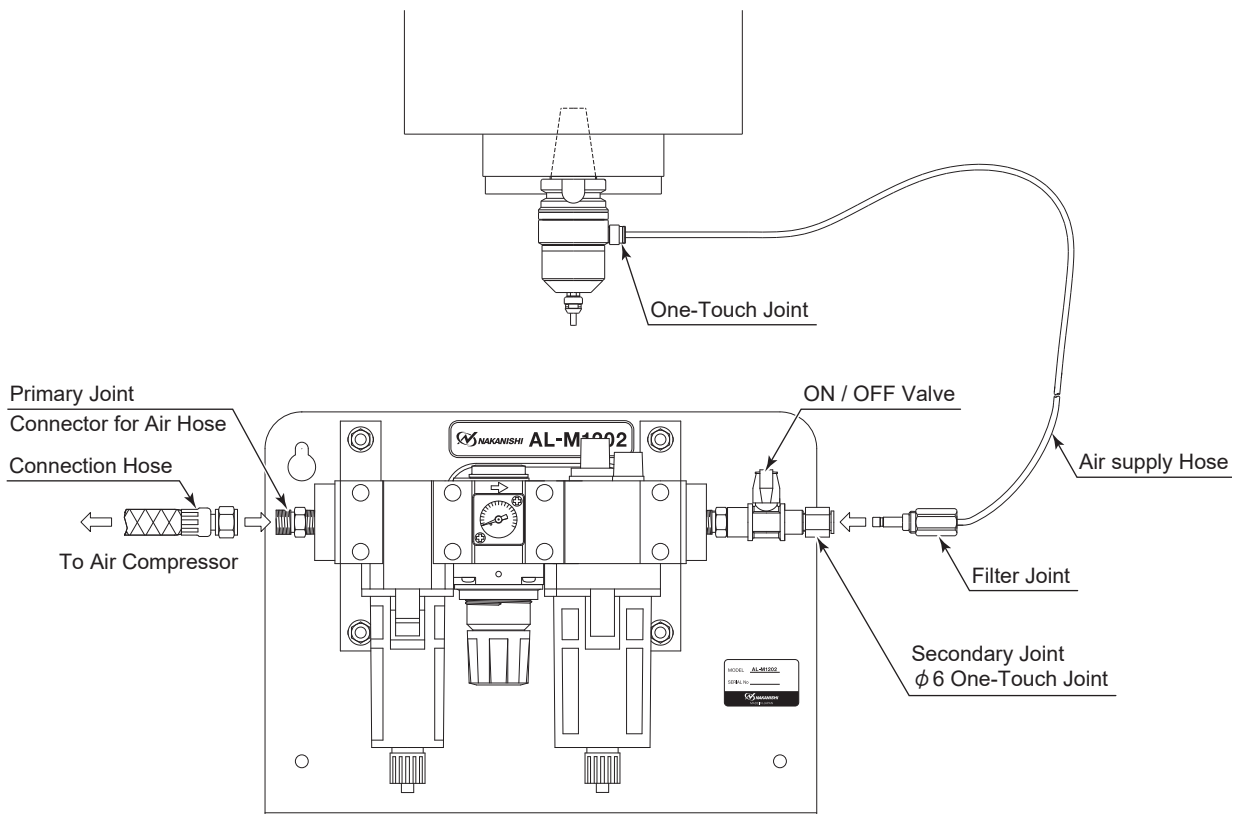

Fig. 14 Connection of Air Line Kit " AL - M1202 (Sold Separately) "
- ① Connect the Filter Joint of the supply air / oil hose to the Secondary Joint ($\phi 6$ One - Touch Joint) of the Air Line Kit. (Fig. 14)
- ② Attach the other end of the Air Intake Hose to the easy connection joint on the HTS1501S.
- ③ Fill Oil Reservoir through the Oil Filler Cap with recommended NAKANISHI Lubricating Oil (K - 211 : Air Line Kit's Standard Accessories) to Upper Limit. Disconnect from air supply prior to opening Oil Filler Cap. Do not over or under fill.
- ④ Connect the connection hose (Air Line Kit's Standard Accessories) to the Primary Joint of the Air Line Kit and Compressor. (Fig. 14)
- ⑤ Supply air from the air compressor and turn the Regulator Knob to set air pressure between 0.3 - 0.5 Mpa (43.5 - 72.5psi).
- ⑥ Turn the ON / OFF Valve and rotate the HTS1501S with recommended proper air pressure. Adjust the Oil Drip Rate to the recommended volume which is 1drops / min.) (Commercially Air Line Kit is same Oil Drip Rate).
- ⑦ Be sure to adjusted to proper Oil Drip Rate before using the HTS1501S.